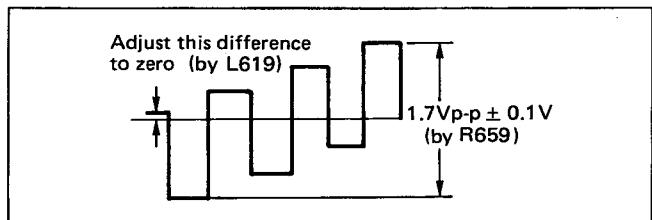

Fig. 37
- Adjust R659 and L619 to achieve waveform shown in Fig. 37.